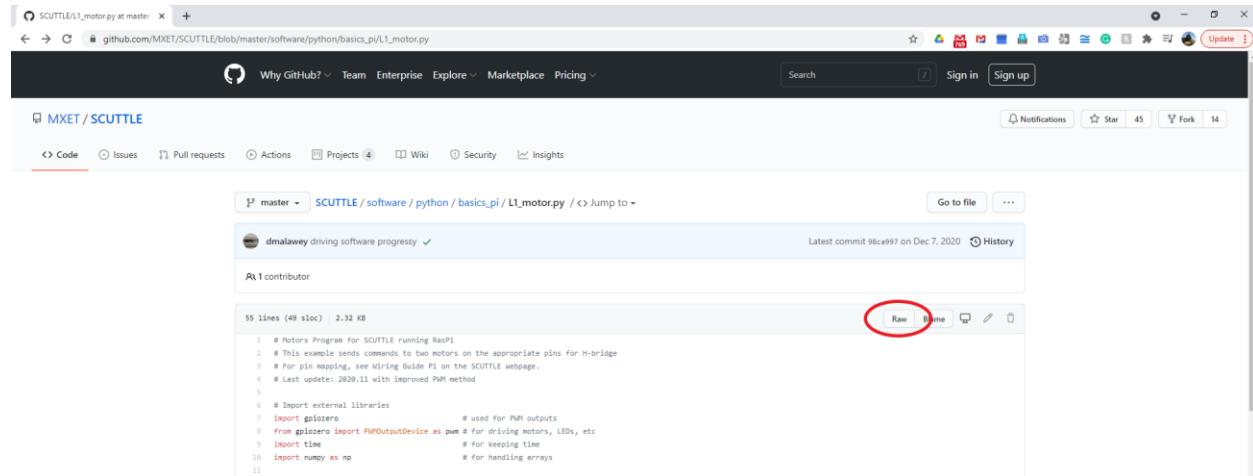

Figure 11
- a. Figure 11 below shows how you can view the raw code, using *L1\_motors.py* as an example: